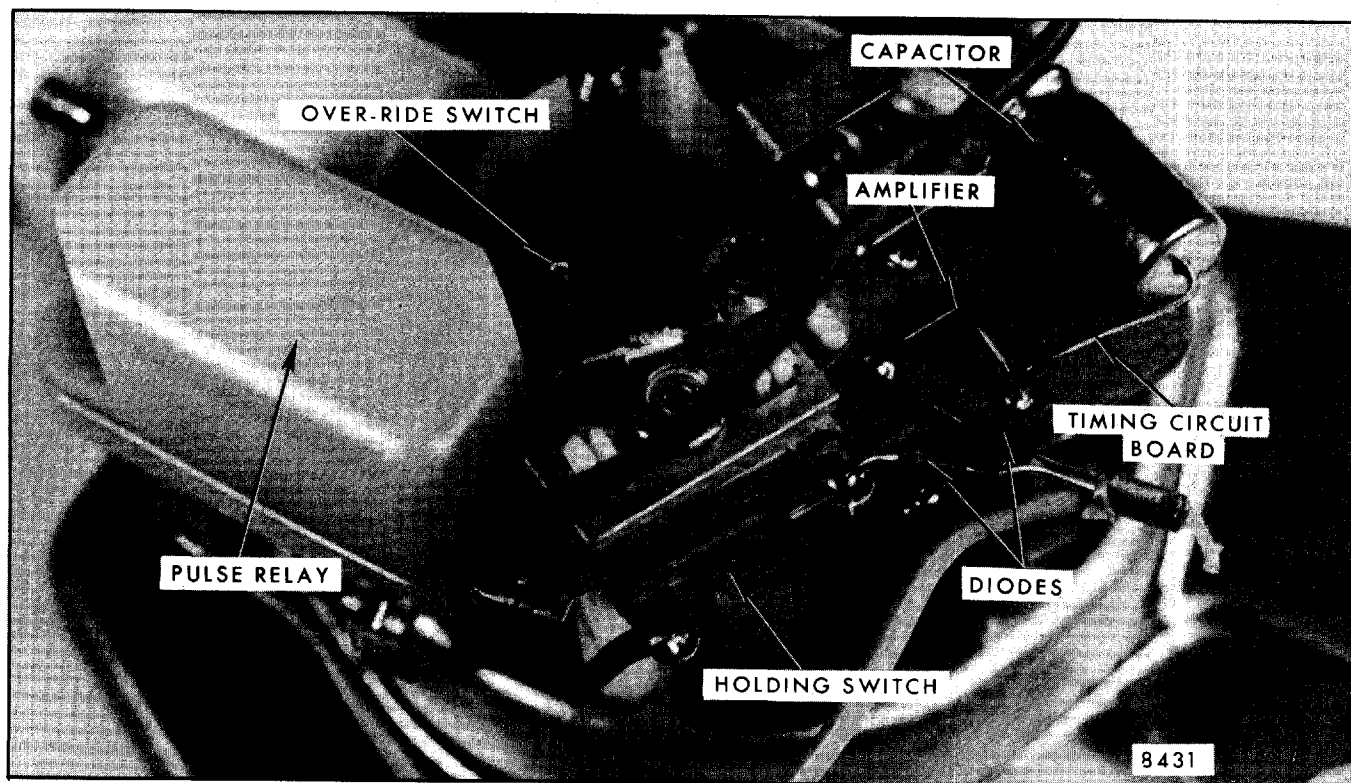
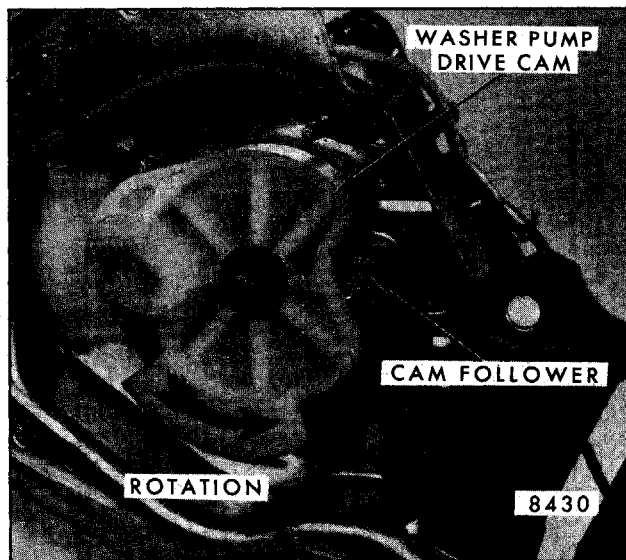
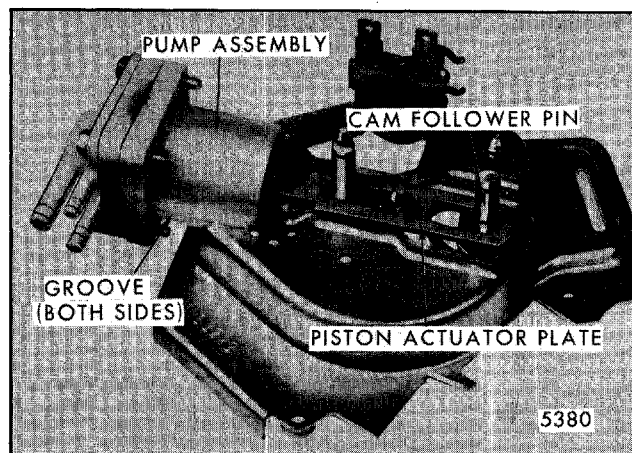

Fig. 2-113-Modified Pulse Washer Pump Timing Circuit
Fig. 2-114-Washer Pump Cam Rotation
Fig. 2-119-Pump Intake Stroke
2. To release the plastic pump housing from the sheet metal base, pull it in the direction toward the valve end until the grooves in the housing clear the base. Next, detach the assembly from the cam-follower pin (Fig. 2-119).
The washer pump used on the modified pulse wiper differs considerably from the pump used on a standard wiper. Referring to Figure 2-113 note the following components NOT found on a standard pump: (1) pulse relay, (2) override switch, (3) holding switch, (4) solid state electronic device and (5) a special drive cam (Fig. 2-114). These special components serve the following functions:
cylinder housing and controls the flow of washer solution (Fig. 2-119).
NOTE: Figures 2-119 and 2-120 show the pump with most of the programming parts removed for illustrative purposes.
Referring to Figure 2-119 note that the elongated slot of the piston actuator plate fits over a pin. This pin is a part of a cam-follower assembly which is actuated by a drive cam located on the underside of the pump mounting plate (Fig. 2-114). When the wiper is running, the drive gear rotates the drive cam which in turn causes the cam-follower to move back and forth.
Note that a tang on the piston actuator plate is resting against a ramp on the lower surface of the ratchet gear (Fig. 2-119). This holds the piston actuator plate in a lock-out position as long as the RATCHET GEAR IS NOT ROTATED.
The ratchet pawl, which is actuated by the same cam-follower pin that moves the piston actuator plate, then begins to rotate the ratchet wheel. Rotating the ratchet wheel one tooth moves the ratchet wheel ramp away from the tang of the piston actuator plate (Fig. 2-119), permitting the piston spring to expand which, in turn, forces the piston toward the valve assembly resulting in the first exhaust stroke (Fig. 2-122).